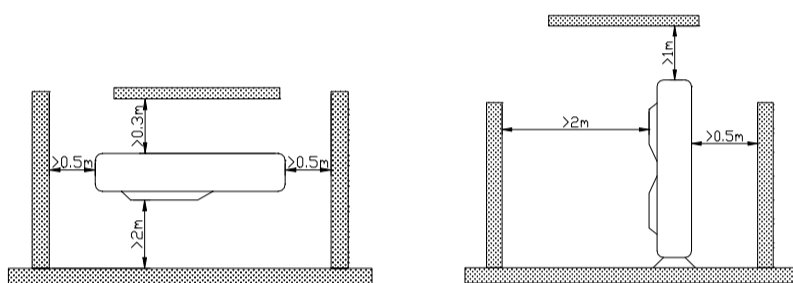

Fig.1 Installation position of outdoor unit
- Provide the space shown in Fig.1 so that enough servicing space can be ensured.